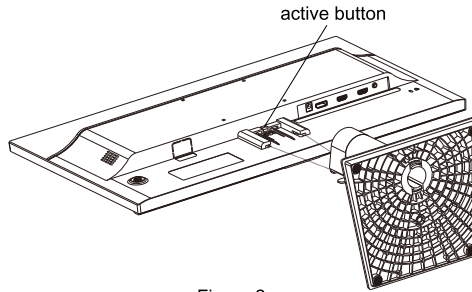

Figure 2
2. As shown in Figure 2, Insert the assembled base into the corresponding slot of the machine, till the sound is heard and the active button is parallel with the near two sides. As figure 2 and 3.